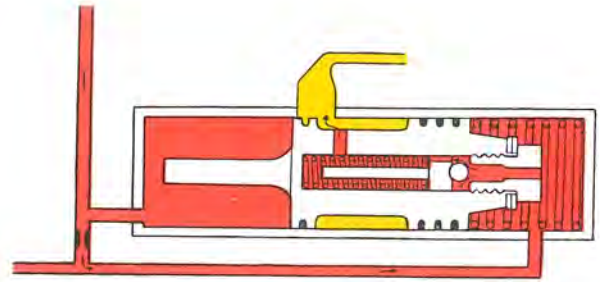

Fig. 6-44. Control valve, maximum pressure
Should the pump flow through the outlet be stopped, for example, because the front wheel turning is blocked, the pressure in the delivery line (1), will rise and the pressure difference between both ends of the control valve will be equalized. This will cause the spring to be moved to the left, the connection with the return channel to be closed and the pressure to rise even more. At about 75 kp/cm² (1066 psi) the spring pressure on the safety valve (6) is overcome, that is, the inner part of the control valve, and oil can then pass out to the return channel (4). See Fig. 6-44. The pressure on the right-hand side of the piston will then drop and the entire control valve will be moved to the right so that the connection with the return channel opens. When the pressure drops to its normal value, the safety valve closes and the control valve returns to its normal position.